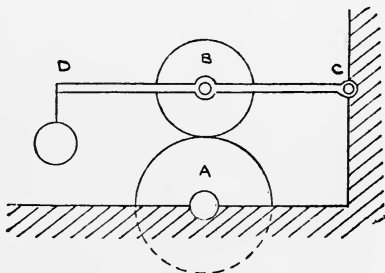

Fig. 2.
3. A solid cylinder A of mass 360 lbs., 12 inches in diameter, turns freely in fixed bearings (see Fig. 2). A solid cylinder B of mass 160 lbs., 8 inches in diameter, turns freely in bearings carried on the lever CD hinged at C . When the wheel A is making 800 revs. per minute the lever CD is depressed and the wheel B which is at rest is brought into contact with A . Determine the revolutions of the wheels when the speed has again become constant. If the pressure between the wheels is 200 lbs. and the coefficient of friction is 0.25, determine how long it takes to effect the equalizing process.